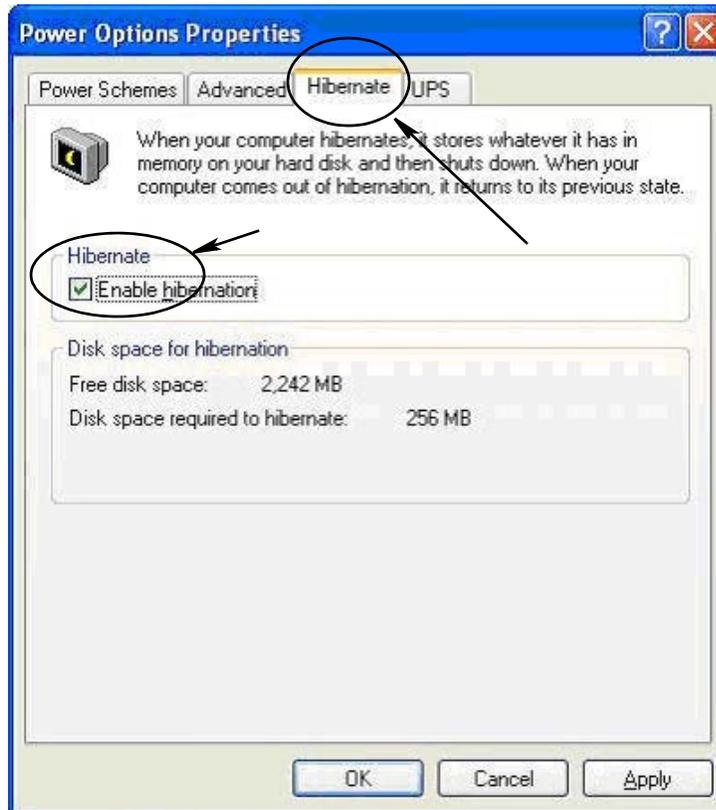

FIG. 45
3. Select the Hibernate tab. Turn off hibernation by clearing (unchecking) the Enable Hibernate check box . Click Apply and OK to close all windows (FIG. 45) and save the changes.